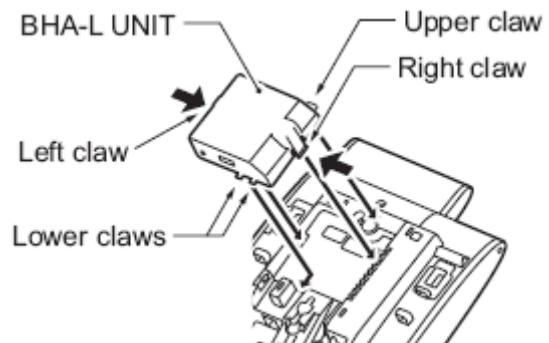

Figure 5-152 Installing the BHA-L UNIT
5. Insert the lower claws of the Bottom Unit (see Figure 5-152 Installing the BHA-L UNIT) into precut holes on the multiline terminal.